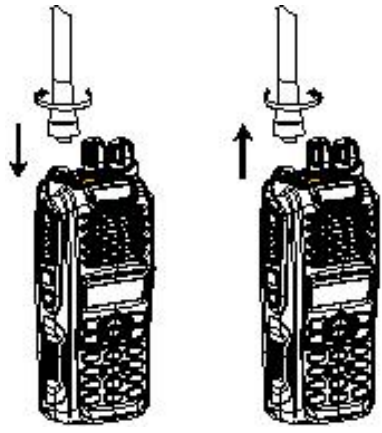

Figure 3
2. Turn the antenna clockwise to fasten it. See figure 3
Turn the antenna counter-clockwise until you can remove it. See figure 3